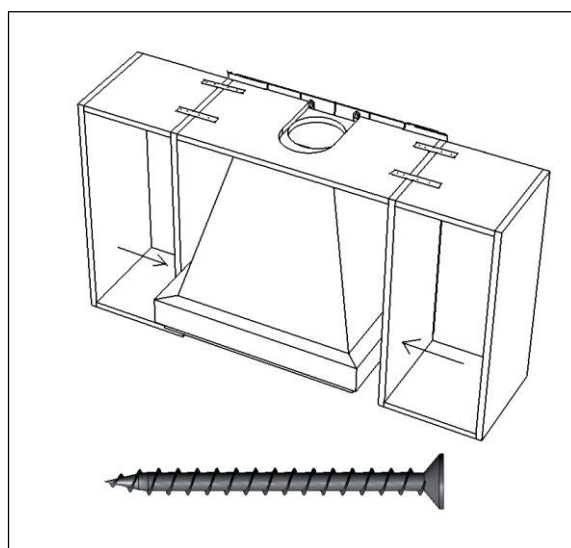

Fig. 20
8. After the entire kitchen unit has been installed, it is recommended to additionally fix the duct through side walls of adjacent cabinets with screws 4x40 mm (Fig. 20)